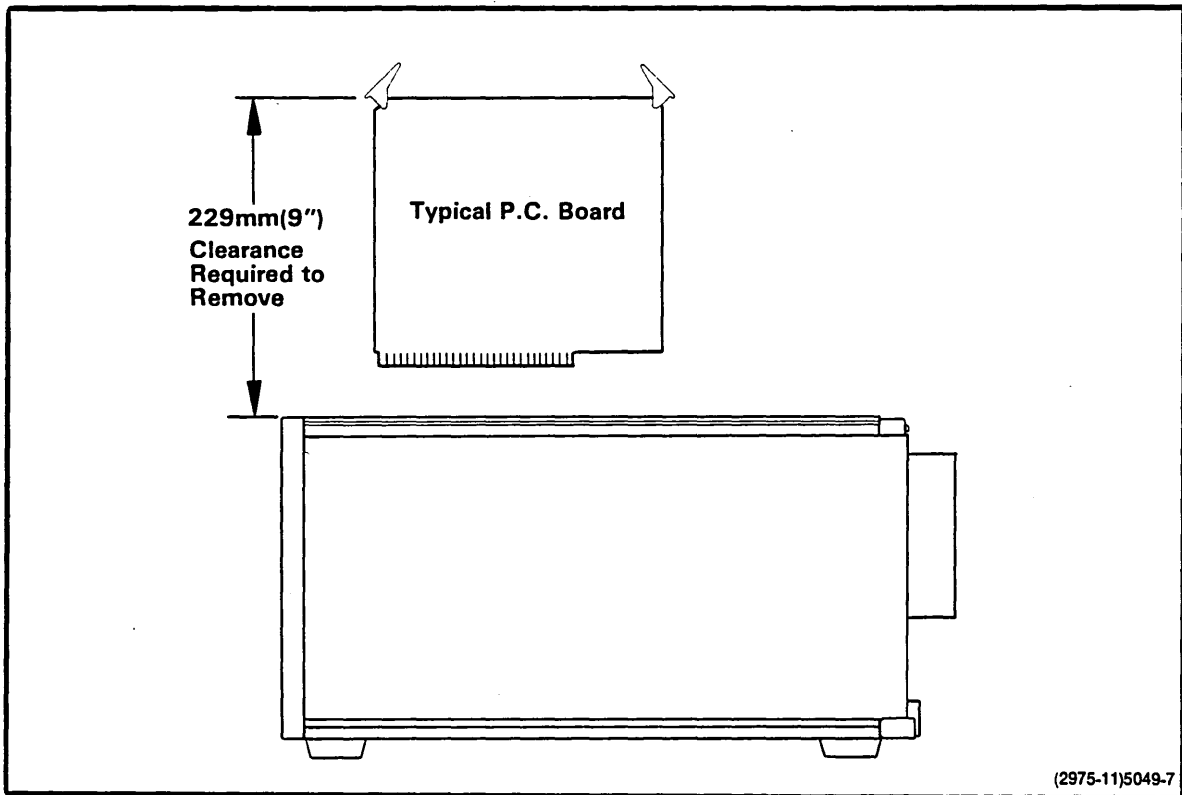

Fig. 5-3. Circuit board clearance requirements.
- Allow adequate clearance above the 8560 to permit inspection and removal of circuit boards, as shown in Fig. 5-3.